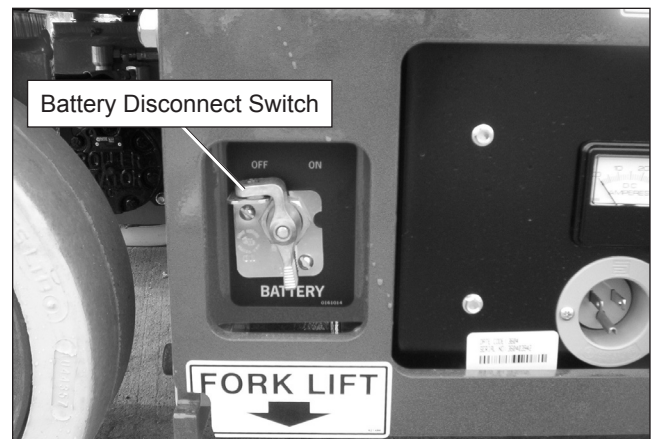

Figure 6.1 – Battery Tray
1. Turn the battery disconnect switch off (refer to Figure 6.1). The switch is next to the latch on the battery tray.